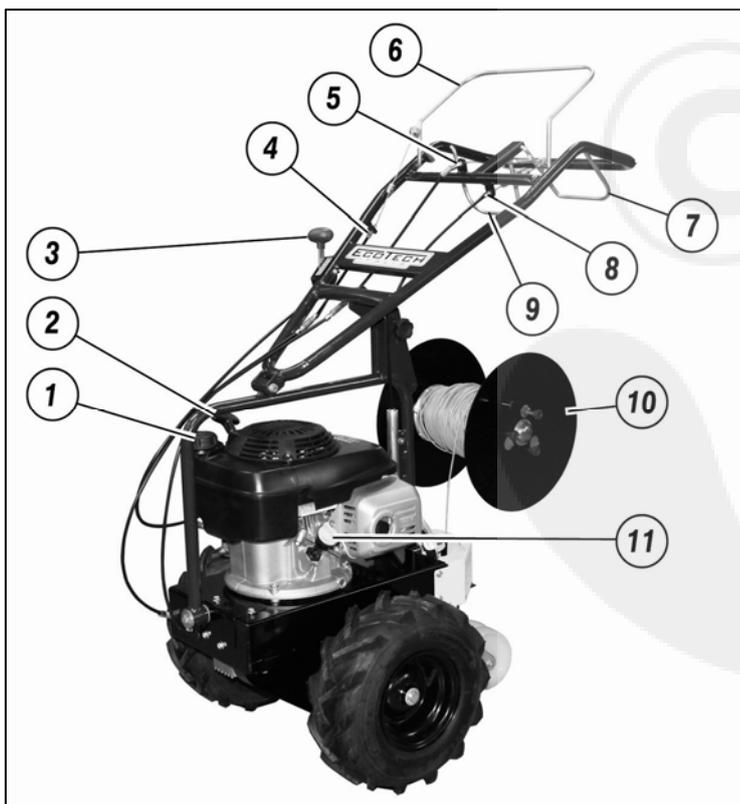

Fig.1
- Make sure that the oil level is not below minimum: Unscrew the cap (fig.1 no.11), use a rag to clean the dip stick and screw the cap back on. Unscrew the cap again and check whether the oil level falls within the minimum and maximum levels indicated. If the oil level is below minimum, add more oil until a suitable level is reached. (ask a trusted supplier for a suitable oil typology).
- Make sure that all of the levers are in their neutral positions (fig.1 no.6/no.9).
- If the motor is cold, the gas throttle (fig.1 no.3) must be set to its START position.
- Pull the motor's starter handle (fig.1 no.2) with force. Before using the machine, wait for a few minutes in order to allow the motor to reach its proper operating temperature.
Before initiating any work activities, position the cable upon the spool, adjust the machine's cable laying depth and tie the loose end of the cable to a peg. Make sure that there are no people, animals or foreign objects within 15 metres of the machine. Start the motor and wait for it to reach its proper operating temperature before beginning. Bring the cutter activation lever (fig.1 no.9) and the advancement activation lever (fig.1 no.1) to their working positions and begin working. Use maximum caution while operating the machine. Be sure to carefully read the operation descriptions provided below. During the summer, or whenever operating upon dry terrain, it is recommended to water the operating area abundantly the day before the work is to be performed.
THE MACHINE MUST BE SUBJECTED TO A TRAIL STAGE! THE BELTS WILL ADJUST DURING THE FIRST HOUR OF WORK. MAKE SURE THAT THE TENSION ADJUSTMENT SPRINGS ARE ALWAYS WORKING PROPERLY (fig.1 no.4/no.5).
Given the various cable and spool typologies which are available on the market, it is recommended that the cable be wound upon the supplied cable spool (fig.1 no.10), using the appropriate handle upon the spool itself. This will facilitate the cable loading operations. In order to guarantee proper unwinding (fig.2), it is important that the cable be wound upon the spool in a clockwise direction. If the user should want to use a spool with cable already wound upon it, the left hand side of the supplied cable spool can be removed by loosening the three knobs (fig.3) and by slightly turning the side of the spool itself. Position the new spool over the supplied spool's central cylinder, using any adaptors as required, and reattach the side which was previously removed. Be sure to tighten the fastening knobs properly. Once the cable has been properly positioned upon the spool, the loose end of the cable must be inserted into the appropriate tube (fig.4) until a few centimetres of cable come out the bottom.